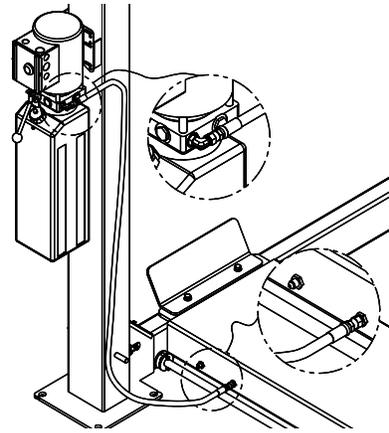

Fig 20 – Supply Line, Side
- 36) For installs with the power unit on the side of the column route the supply line to the bulkhead shown in Fig 20.